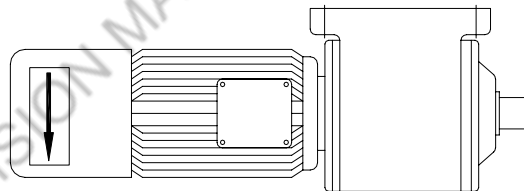

Figure 1
PHYSICAL DIMENSIONS . . . . .	FIGURE 1
- Figure 1 (Appendix) : Overall machine and floor mounting dimensions
A fusible electric "disconnect" panel box must be installed for the line incoming three-phase electrical power. **CAUTION:** Motor direction must match the motor arrow. See Figure 1, below. Switch any two single-phase leads to reverse the motor rotation -- **WARNING:** Incoming three-phase electrical power must be turned off at the fusible "disconnect" panel box before reversing leads to reverse the motor direction.